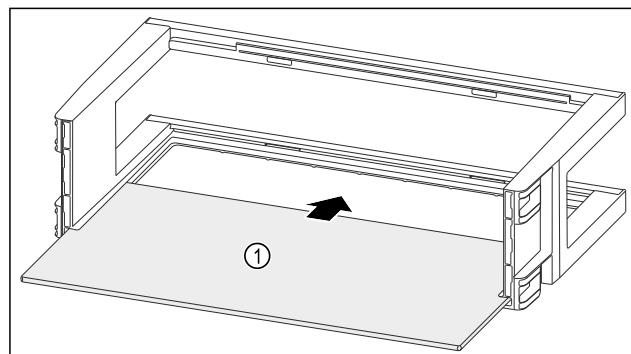

Fig. 96
- Push the shelf Fig. 96 (1) into the side recesses.